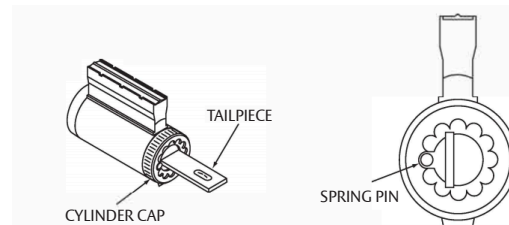

Figure 9
- Check cylinder for proper clearance. If cap is too loose, the key cannot be withdrawn and if too tight cylinder will bind. Make sure that spring pin is engaged with cylinder cap. (See Figure 9).